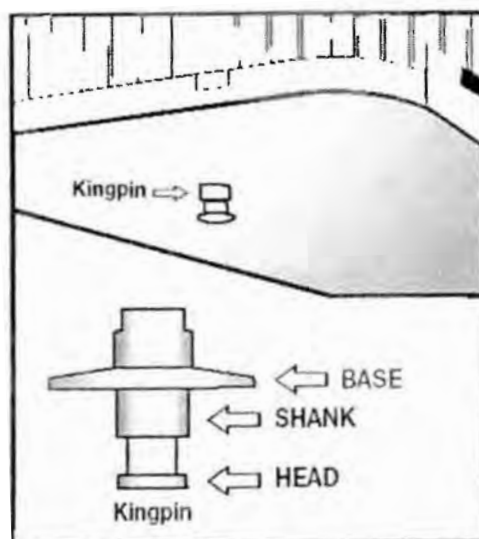

Figure 6.8
- Locking jaws around the shank, not the head of kingpin. *See Figure 6.8.*